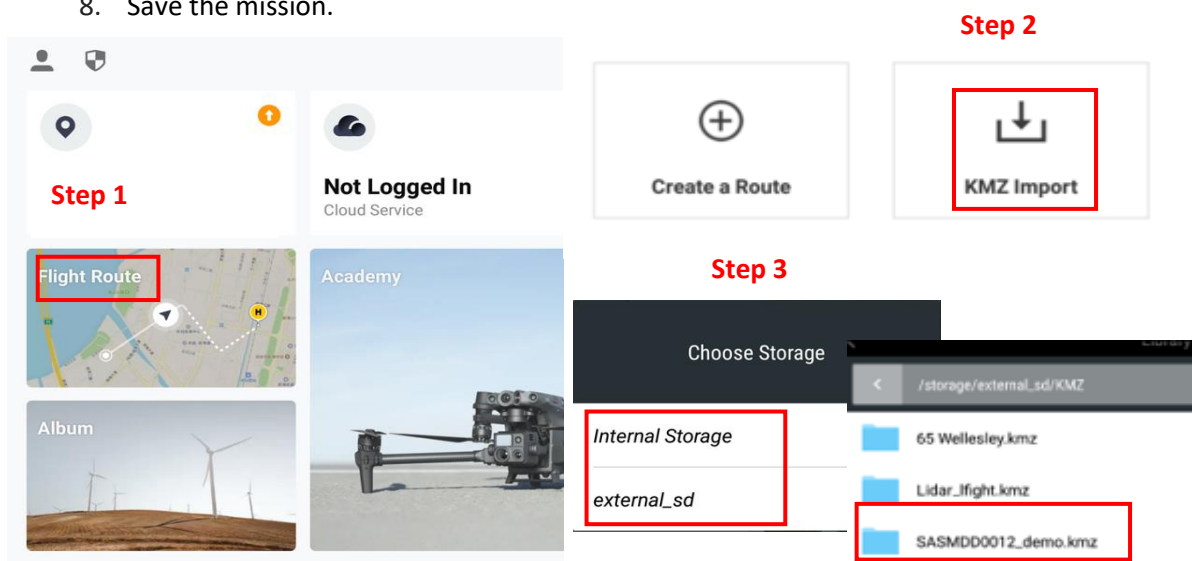

Figure 4: Access Flight Route on the main screen of DJI Pilot app to import KMZ file of TERN plot(s).
1. On the DJI Pilot app (Figure 4) select 'Flight Route'.